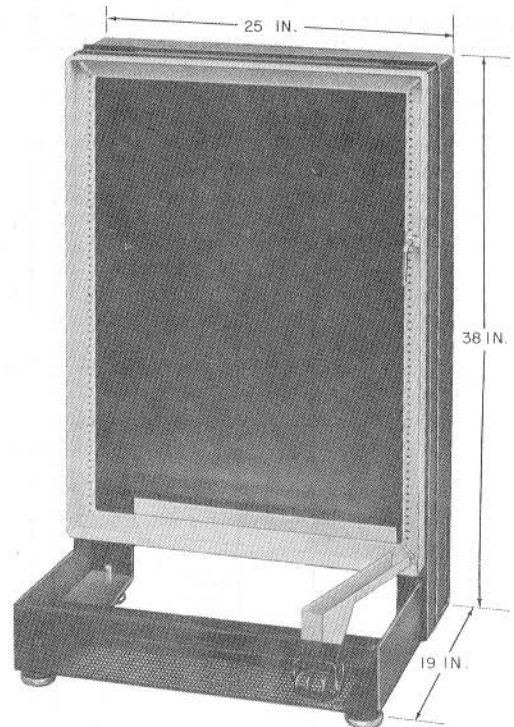

Fig. 18—♦34C Cabinet♦
4.09 The 34C cabinet (Fig. 18) is a general use, floor-standing unit consisting of a steel bottom and back and a hinged carrier gate. A caster supports the weight of the gate when it is open. Glides or optional casters (D-180700 Kit of Parts) are attached to the bottom corners of the cabinet for easy moving. The back provides a mounting surface for 100-, 101-, and 102-type connecting units; the gate provides a mounting space for a 2-type power panel and one or two 702- or 703-type panels. With a 154A cover installed, the cabinet is 20 inches wide, 19.6 inches deep, and 39.4 inches high overall.♦